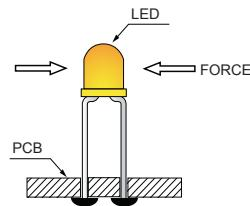

Fig. 10
7. After soldering or other high-temperature assembly, allow the LED to cool down to 50°C before applying outside force (Fig.10). In general, avoid placing excess force on the LED to avoid damage. For any questions, please consult with Kingbright representative for proper handling procedures.